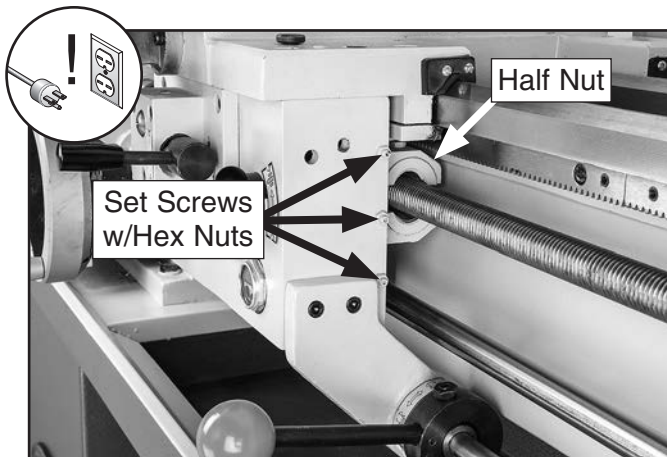

Figure 128. Location of half nut gib set screws.
3. Loosen hex nuts on set screws shown in **Figure 128**.